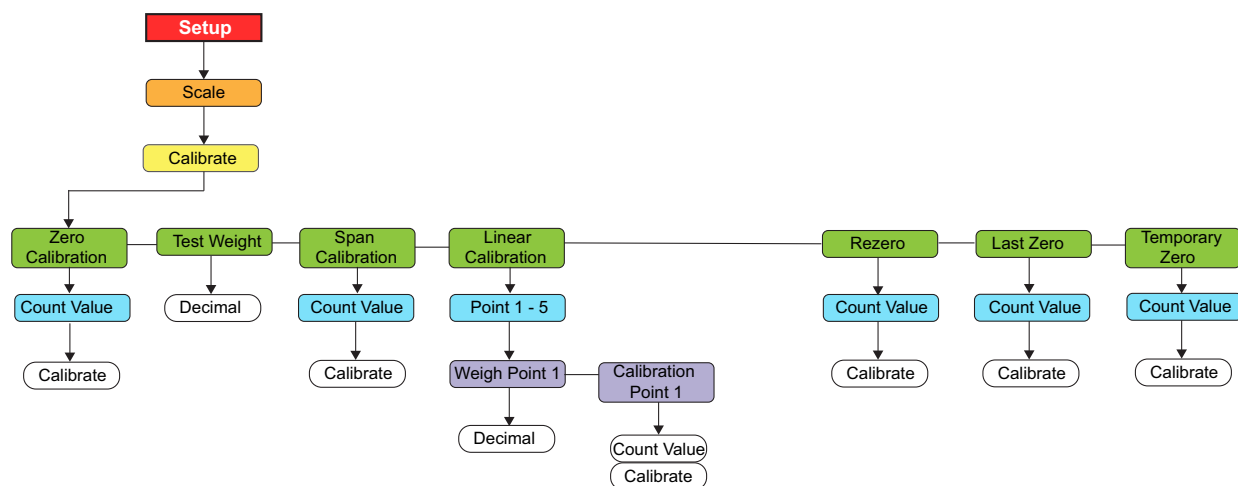

Figure 4-1. Calibration Menu
1. Put the indicator in setup mode (Figure 3-1 on page 30) (or use  if audit trail is enabled), and navigate to **Calibrate** (Figure 4-1 on page 53).